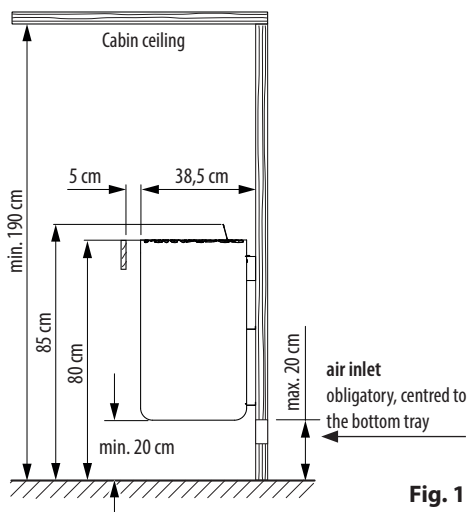

Fig. 1
- The minimum height of the sauna cubicle should be **190 cm** on the inside (Fig. 1)